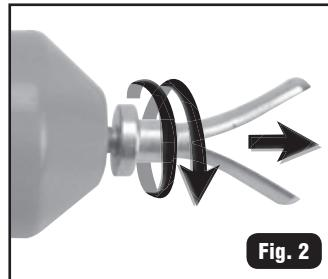

Fig. 2
1. Unscrew the probe from the tester (Fig. 2).